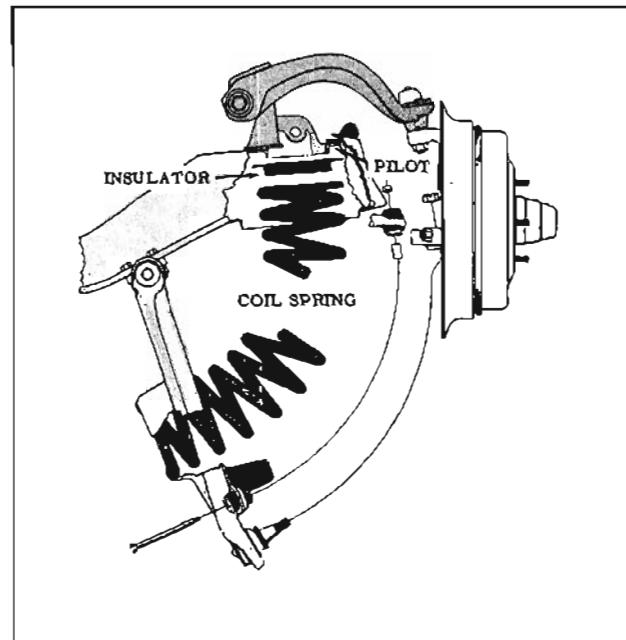

Fig. 9-20 Coil Spring Installation
3. While holding spring and insulator against pilot in frame crossmember, tilt spring so it will pilot in lower control arm. (Fig. 9-20) Rotate spring so the end of the bottom coil will index with edge of hole in control arm spring seat. The coil should not cover any portion of the hole.